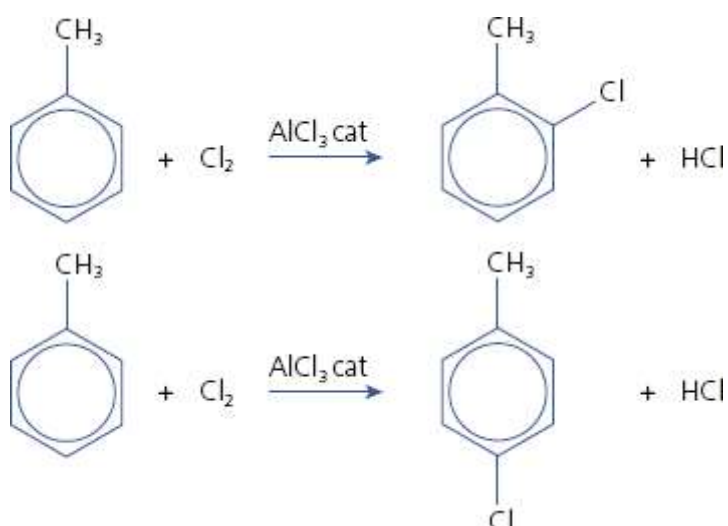

Figure 30.5
- There is an additional complication of where the halogen atom goes in relation to the methyl group. Methyl groups direct further substitution to the 2- or 4- positions in the ring (the 1-position is that occupied by the methyl group). The reaction with either chlorine or bromine under these conditions results in the formation of a mixture of 2-halo- and 4-halomethylbenzene (Figure 30.5).